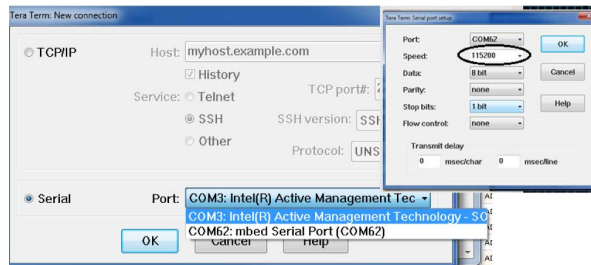

Figure 18. Using Tera Term as Serial Monitor With Baud Rate Set to 115200
5. Connect the EVAL-ADICUP3029 by using the COM port it was assigned to set the baud rate to 115200 (see Figure 18).